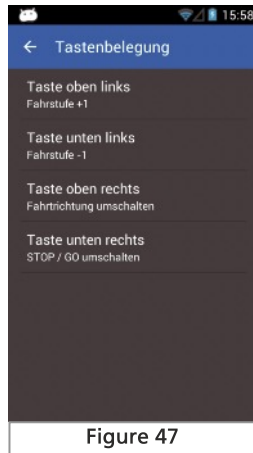

Figure 47
- Select the button you wish to assign from the list of Buttons, Figure 47.